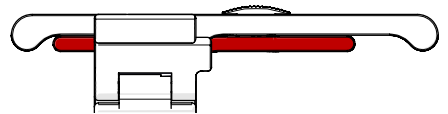
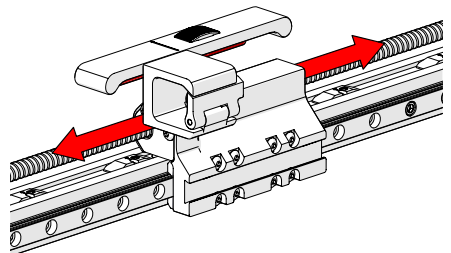

Fig. 34 - Indexing plunger disengaged
Fig. 35 - Carrier moves freely
1. Lift the **1** indexing plunger and move the **2** indexing latch to the left to permanently disengage the indexing plunger (Fig. 34). This will allow the carrier to move freely along the leadscrew (Fig. 35).